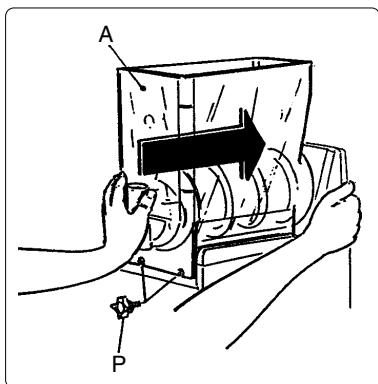

Fig. 17
- g) Reassemble the tank (A) by positioning it back into its lodging, verifying that it faces in the correct direction and is held in place by its washer (see fig. 17), then re-insert the knobs (P).